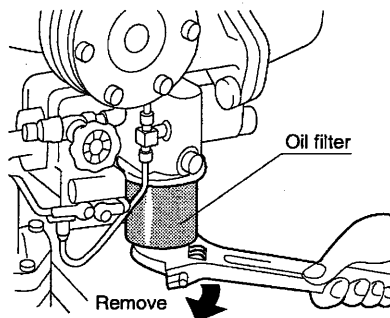

Fig. 42
- (1) Oil filter filters minute dirt.
- (2) Oil filter is cartridge type.
- (3) Replace oil filter with a new one at every two times of replacement. (Fig. 42)